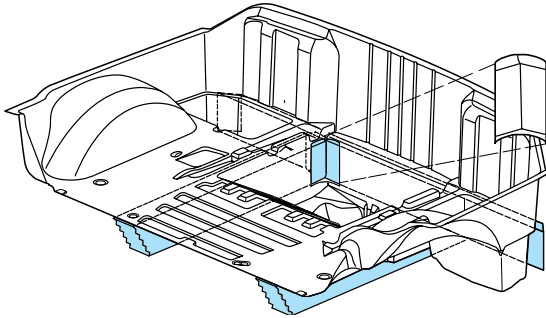
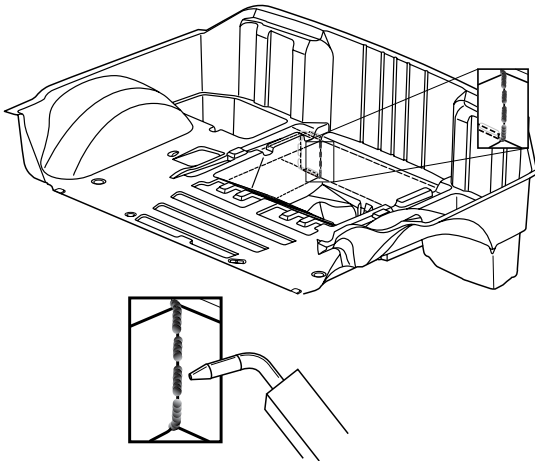

Fig. 3.71 — Cut and Remove Left and Right Corners (Right Corner Shown)
Fig. 3.72 — Create Windows to Access Welds
- Access to the inner rail welds require modification to the rear wall of the SMC rear compartment panel. From inside the vehicle locate, mark, and cut out 'windows' in the rear compartment panel as in Fig. 3.71. The 'windows' provide access to inner MIG welds attaching the impact bar to the rails (Fig. 3.72).